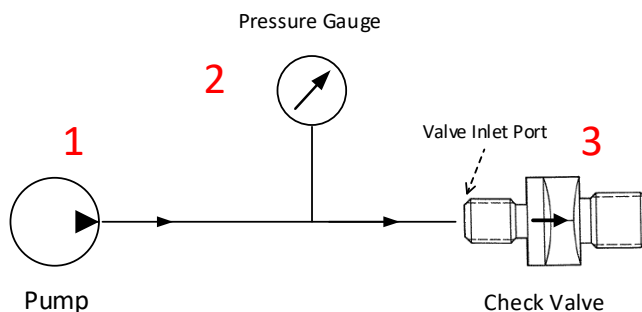

Figure 15: test setup Test Title 4 - 3(3)
(2) Flushing
(3) Cracking Pressure
- Test set up in accordance to Figure 15.
(7) Proof Pressure Test: